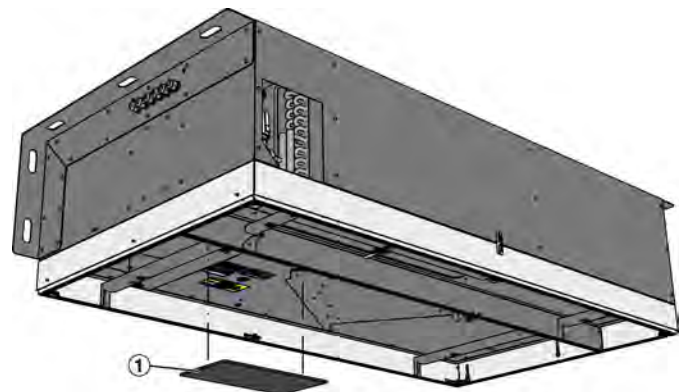

Fig. 75: Extract air filter (non-woven fibres)
8. ▶ Remove the filter pad (Fig. 75 /1) from below.